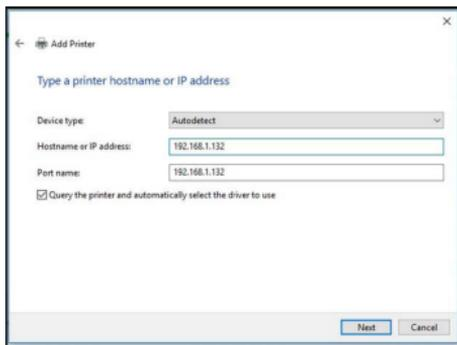

Figure 15
5. On the **Add Printer** screen, under the **Hostname or IP address** field, enter the **IP Address** assigned to the **Print Server**. Select **Next**. Windows will detect the TCP/IP port and will transition to the next screen automatically. (Figure 15)